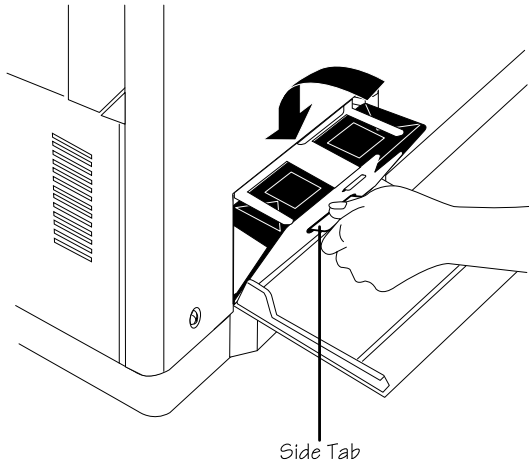

Fig. 2.23 *Insert the Waste Toner Pack in the Printer*
4. Holding the waste toner pack by the side tab, insert the pack into the printer until it fits securely (fig. 2.23). Then, lift up slightly on the tab to be sure the pack is level and centered.